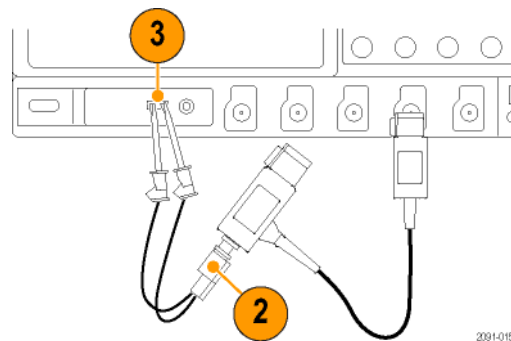

Figure 2-26: Connecting to the probe compensation connector
2. Attach the Sync Pickoff BNC connector to the BNC-to-minigrabbers connector (Pomona Electronics model number 3789). See Figure 2-26.